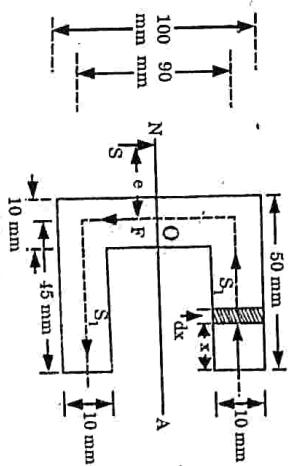

Fig. 3.
b. Locate the position of the shear centre for the channel section shown in Fig. 3.